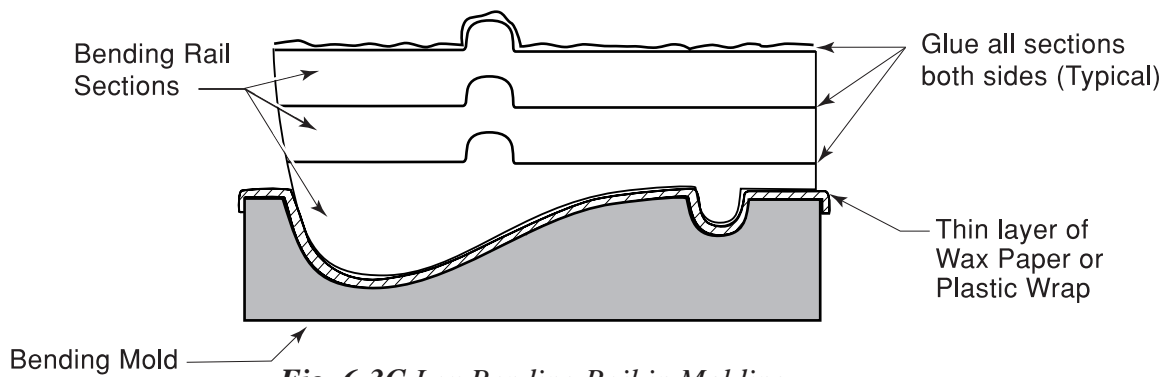

Fig. 6-3C Lay Bending Rail in Molding
5. As you glue the laminates, lay the rail into one side of the bending mold. Start with the first outside laminate, placing each layer on top of it. You will finish with the opposite outside ply. Please note Fig. 6-3C here.